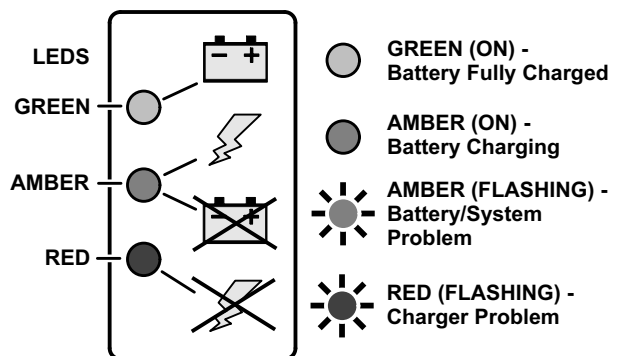

Figure 3-6. Charger Decal LED Indicators
3. When powered up the charger will go through a short LED indicator self-test. The battery charger LED indicators on the charger (Figure 3-6.), will flash in sequence for two seconds. These LED indicators can be viewed through the opening on the rear panel where the charger AC cord is accessed.